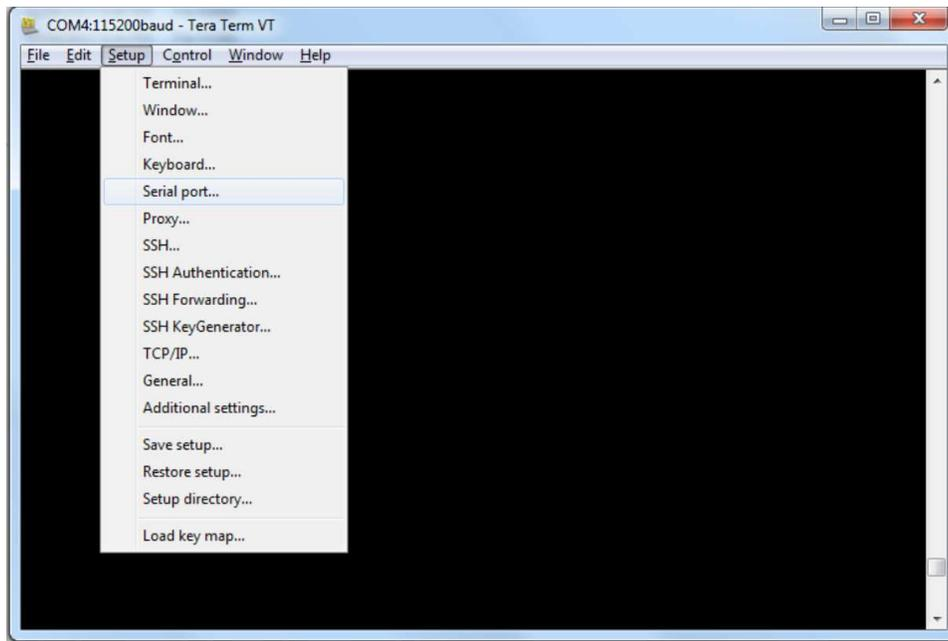

Figure 1-5. Set up Serial Port
4. Go to Setup → Serial port, as shown in Figure 1-5.